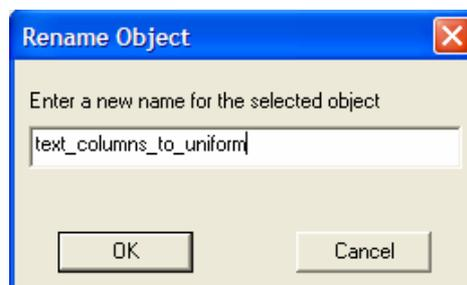

Figure C.31: Rename Object Pop up Window
- Right click on the `text columns to scatter` macro and select **Rename** from the pop up menu. The **Rename Object** pop up window will appear as shown in Figure C.31.